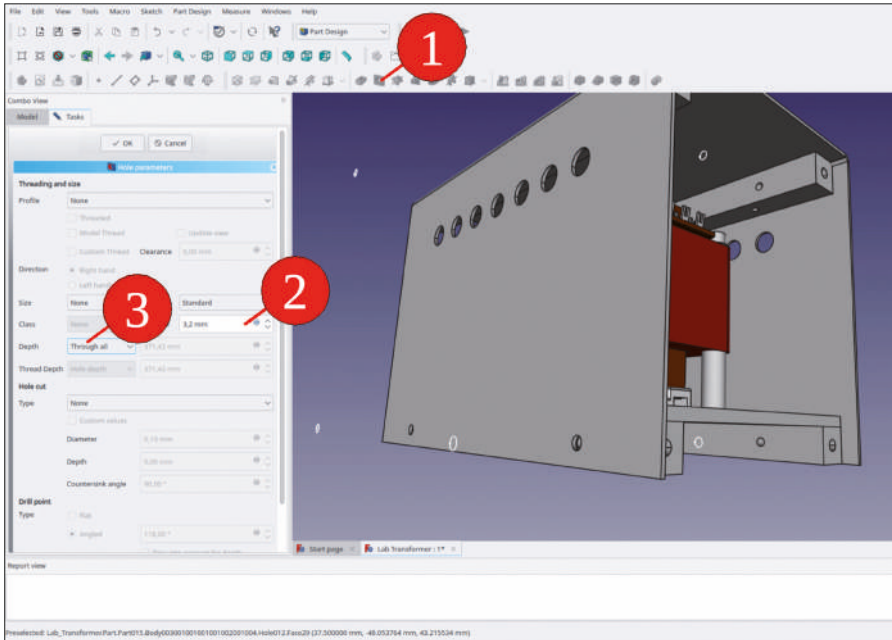

Figure 9-135
48. In the task window, repeat the entries described in step 6 above, but do not check the 'Reversed' checkbox (Figure 9-135). Close the task window with the OK button.